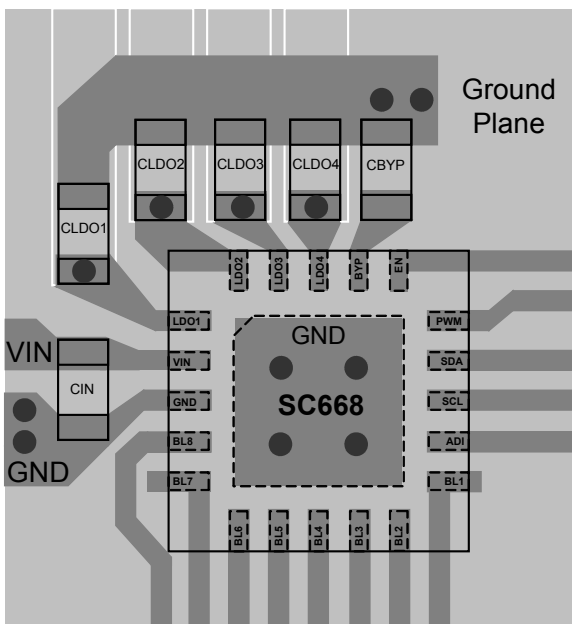

Figure 16 — Recommended PCB Layout
The layout diagram in Figure 16 illustrates a two-layer PCB layout for the SC668 and supporting components. Following fundamental layout rules is critical for achieving the performance specified in the Electrical Characteristics table. The following guidelines are recommended when developing a PCB layout:
- The following capacitors —  $C_{LDO1'}$ ,  $C_{LDO2'}$ ,  $C_{LDO3'}$ ,  $C_{LDO4'}$ , and  $C_{BYP}$  should be grounded together. Connect these capacitors to the ground plane at one point near the SC668 as shown in Figure 16.